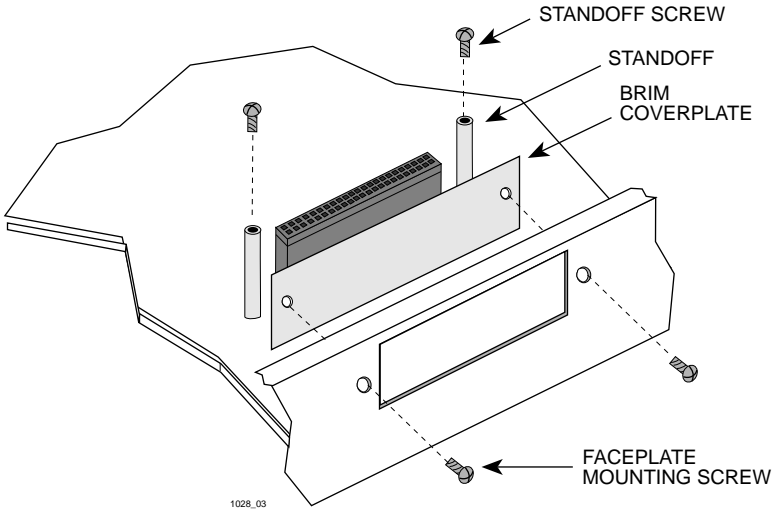

Figure 3-4 Removing the BRIM Coverplate
See Figure 3-4.
5. Remove the faceplate mounting screws and the BRIM coverplate. See Figure 3-4.